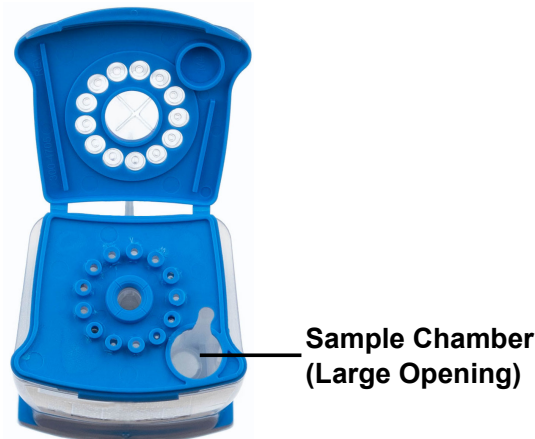

**Figure 1. Transfer Pipette**
- Open the cap on the specimen transport tube. Squeeze the bulb of the transfer pipette **completely** and place the pipette tip in the ESwab transport medium tube containing the patient specimen (see Figure 1).
4. Lift the cap with the attached swab from the transport tube (do not remove the swab completely from the transport tube). Squeeze the bulb of the transfer pipette completely and place the pipette tip in the ESwab transport medium tube containing the patient specimen (Figure 1).